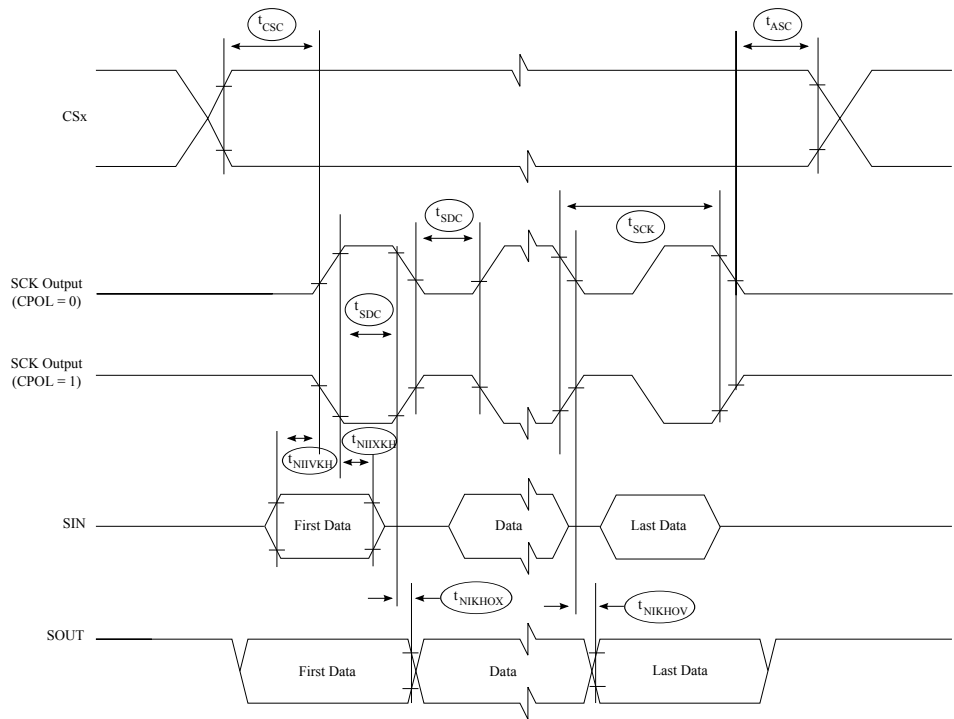
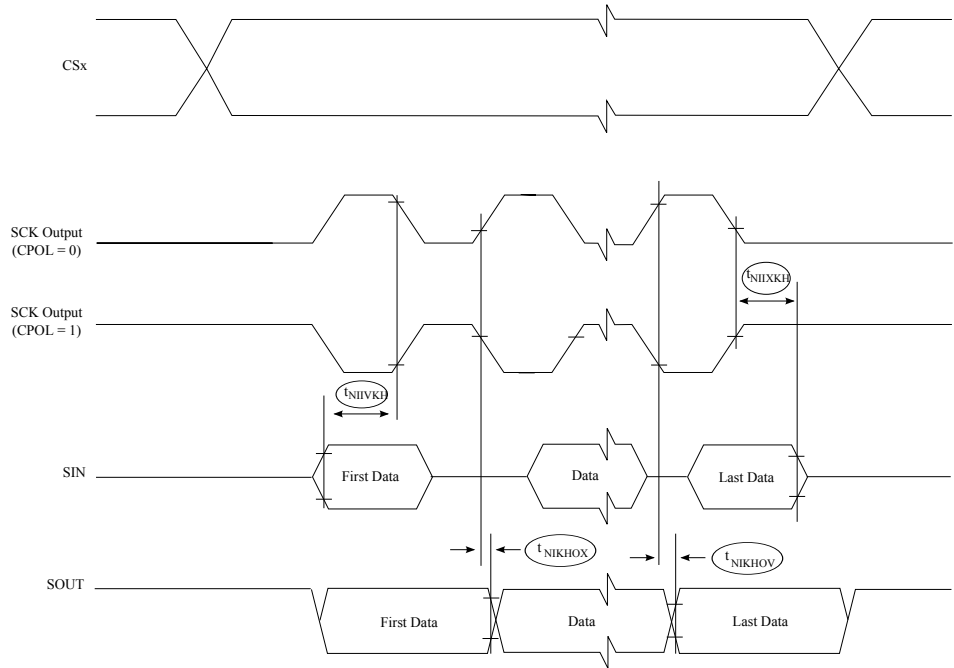

Figure 41. SPI timing master, CPHA = 0
Figure 42. SPI timing master, CPHA = 1
1. $t_{SYS} = 10 \text{ ns}$ 2. Master mode 3. Refer the CTARx register in QorIQ LX2160ARM for more details. The $t_{CSC} = tp * (\text{Delay Scaler Value}) * CTARx[PCSSCK] - 1.85$, where the Delay Scaler Value comes from Table Delay Scaler Encoding. For example, the $t_{CSC} = tp * 4 * 3 - 1.85$ when $CTARx[PCSSCK] = 0b01$, $CTARx[CSSCK] = 0b0001$ 4. tp is the input clock period for the SPI controller. 5. Refer the CTARx register in QorIQ LX2160ARM for more details. The $t_{ASC} = tp * (\text{Delay Scaler Value}) * CTARx[PASC] + 0.06$, where the Delay Scaler Value comes from Table Delay Scaler Encoding. For example, the $t_{ASC} = tp * 8 * 3 + 0.06$ when $CTARx[PASC] = 0b01$, $CTARx[ASC] = 0b0010$ 6. See Figure 41. 7. See Figure 42.